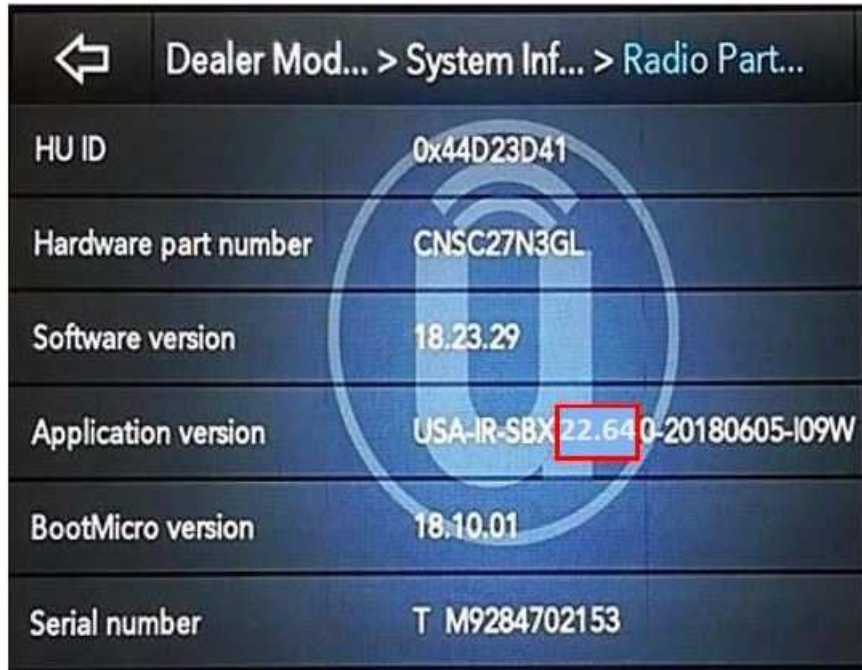

Fig. 1
- b. Select "Radio Part Information". The software version will be listed next to "Application Version" (Fig. 1) .